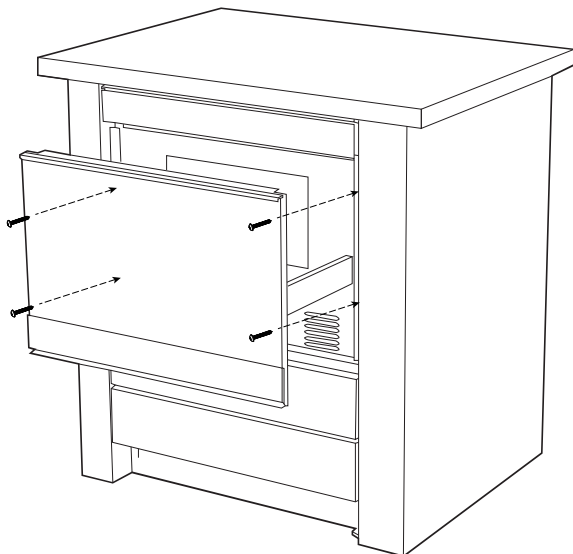

FIGURE 9A
8. Open the oven door and pre-drill each hole using a 1/16" (1.6 mm) drill bit. Fasten the unit to the mounting cleats using the 4 mounting screws provided with your oven. See Figure 9A or 9B.